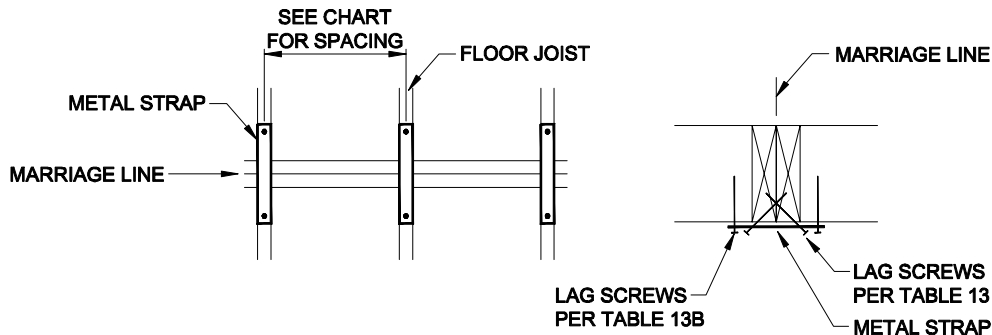

Figure 18B. Strapping at marriage line floor connection
- Strap to be min 26ga 1-1/2" wide galvanized steel strap spaced per **Table 13A** and **Table 13B**. Strap length shall be sufficient to hold the required fasteners (**Figure 18B**).